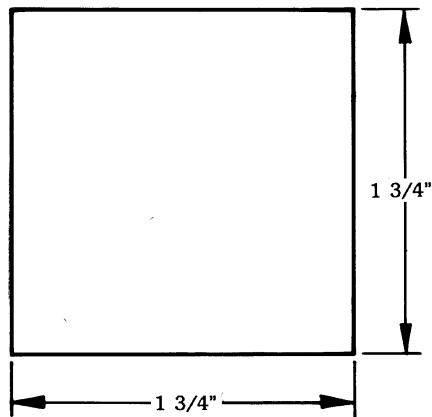

Fig. 3 — Mounting Hole Dimensions
1. Cut a hole in the wall for the terminal board housing. The hole should be 1 $\frac{3}{4}$ in. by 1 $\frac{3}{4}$ inches. See Fig. 3.